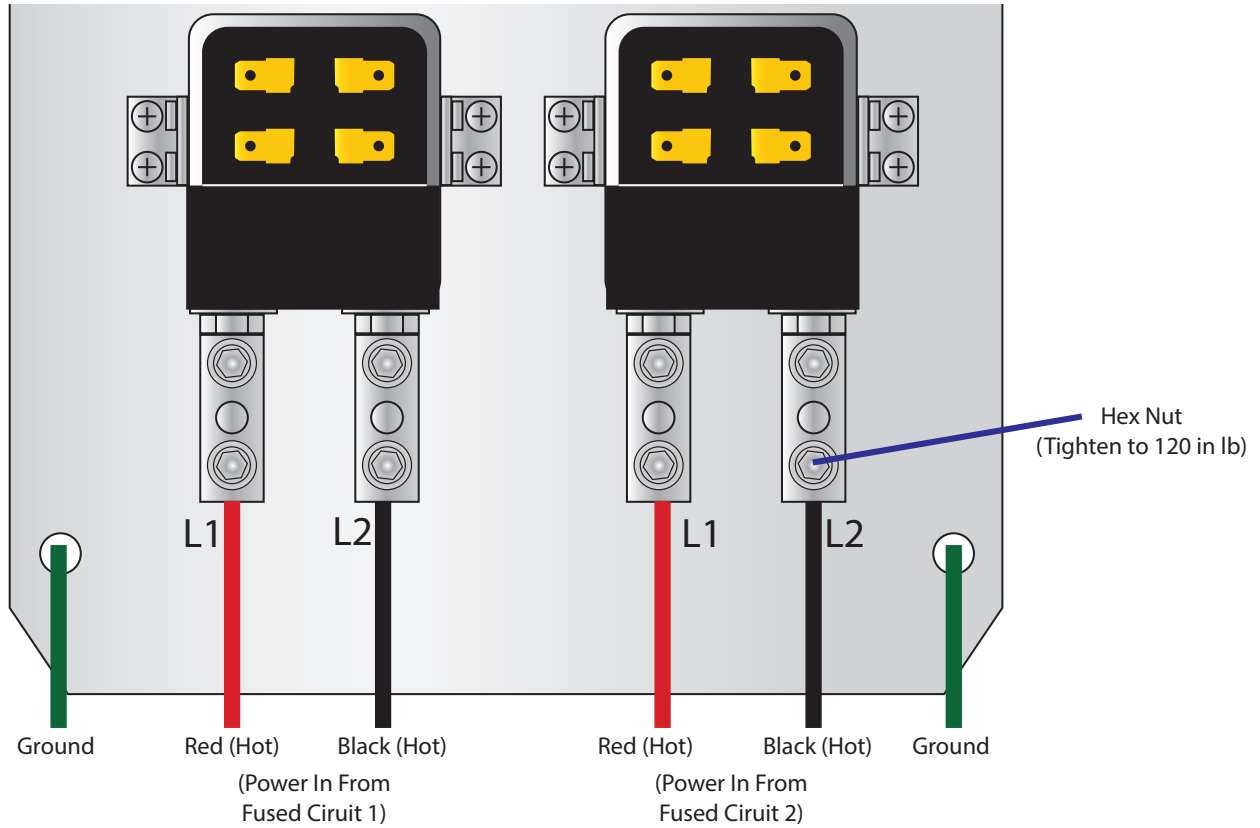
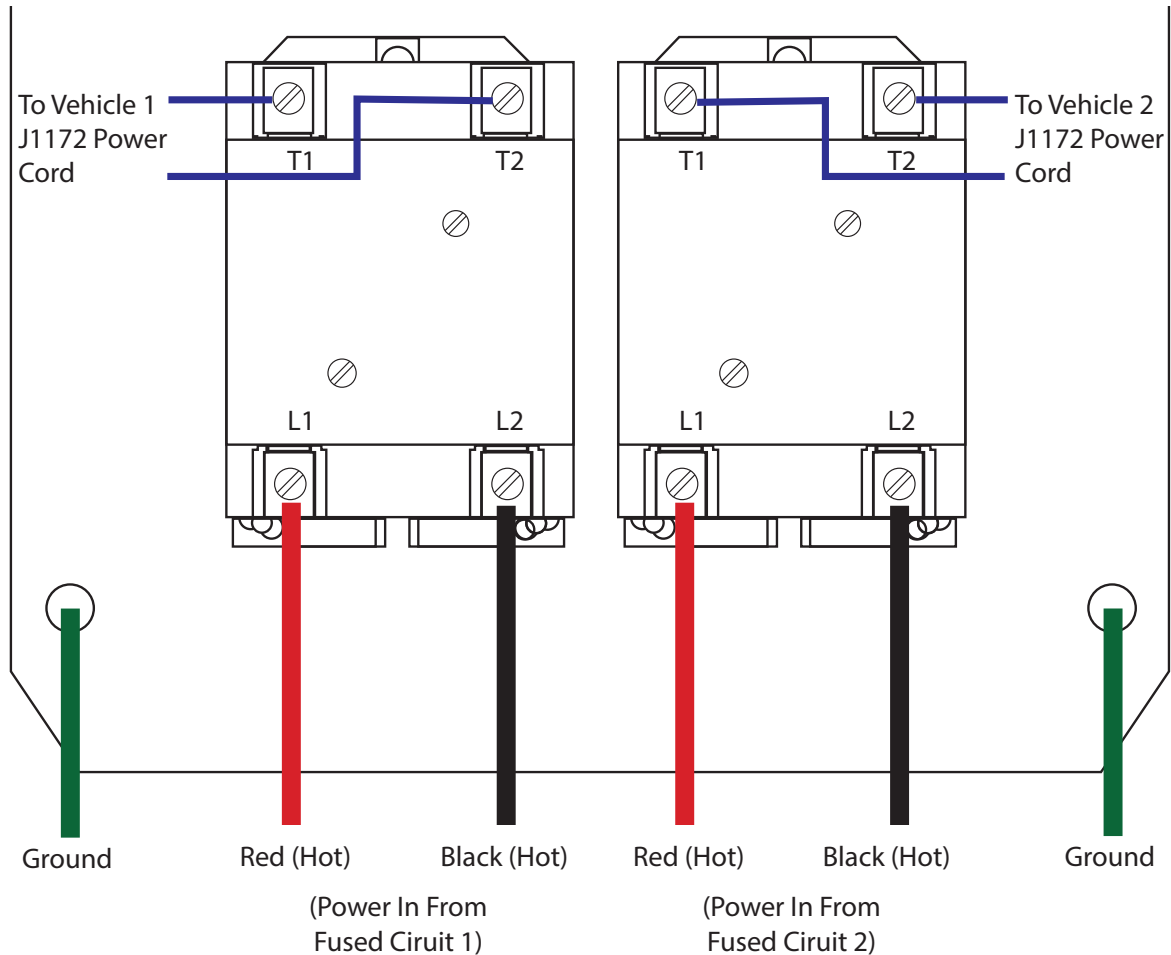

Figure 14. Wiring WattZilla Equipped with Curtis Albright Contactors
Figure 15. Wiring WattZilla Equipped with GE Contactors (Alternate)
3. (In this step, if your unit is equipped with Curtis Albright electrical contactors, refer to Figure 14. If your unit is equipped with GE electrical contactors, refer to Figure 15.) Connect the two hot leads from a 100 Amp breakered circuit to L1 and L2 on the left contactor. Then do the same with a second 100 Amp breakered circuit to L1 and L2 on the right contactor. To attach the power wire to L1 and L2, insert the wire from beneath the contactor as shown in Figure 14 and Figure 15. Then use a hex wrench
4. Connect the ground wires to the grounding studs located behind the electrical contactors (see Figure 15). The bolts connecting the WattZilla enclosure to studs are the grounding studs.